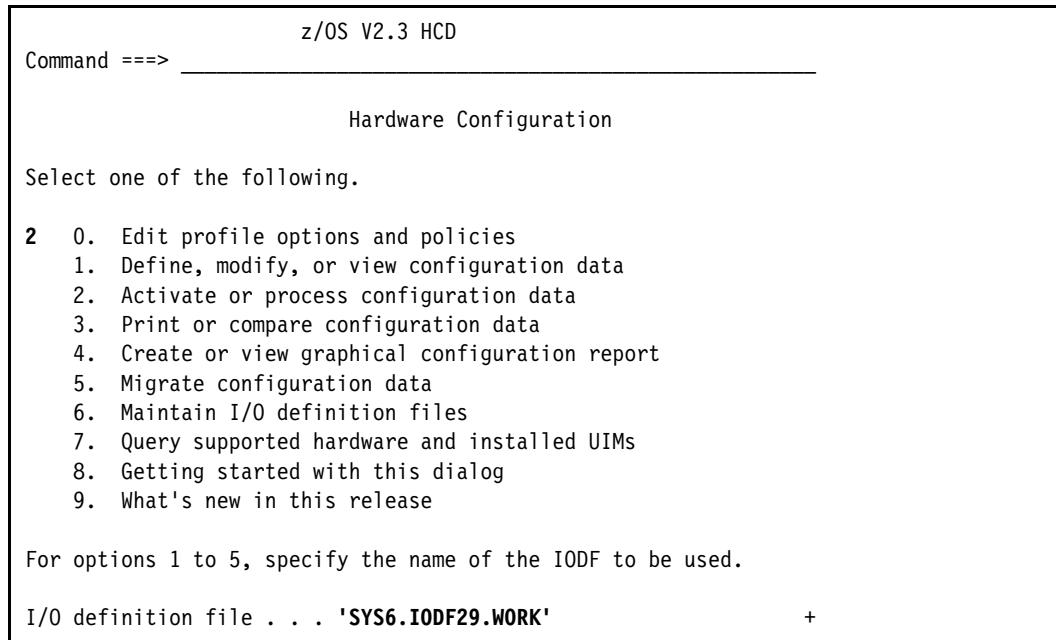

Figure 5-1 *Hardware Configuration: Activate or process configuration data*
1. From the HCD main panel, select option **2. Activate or process configuration data** (Figure 5-1).